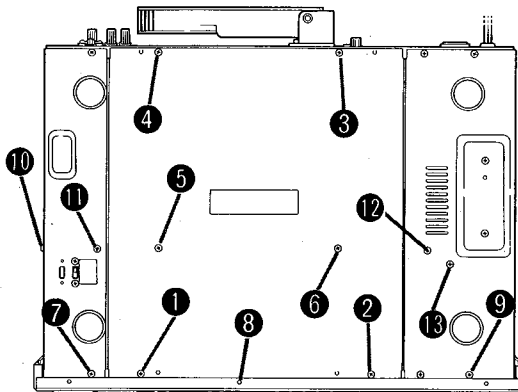
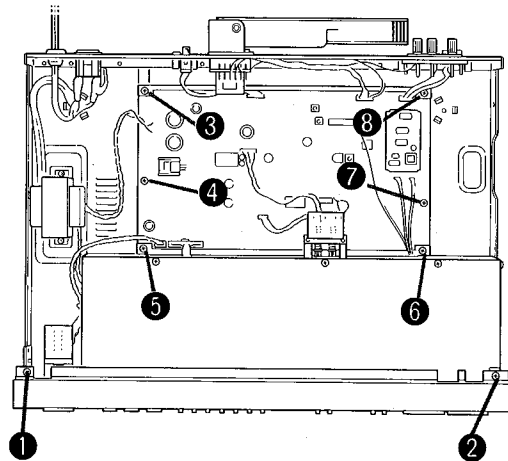

Fig. 2
Fig. 3
Remove screws ① to ⑥ in Fig. 2 and then remove the bottom cover.
1. Remove the cabinet top. (Refer to step ①)
2. Remove screws ⑦ to ⑨ in Fig. 2 and ① and ② in Fig. 3. Remove the front panel by pulling it toward you gently.
5. Remove screws 5, 6 and 10 to 13 in Fig. 2 and then remove shield plate.
3. Remove screws 3 to 8 in Fig. 3 and then remove PCB-1.